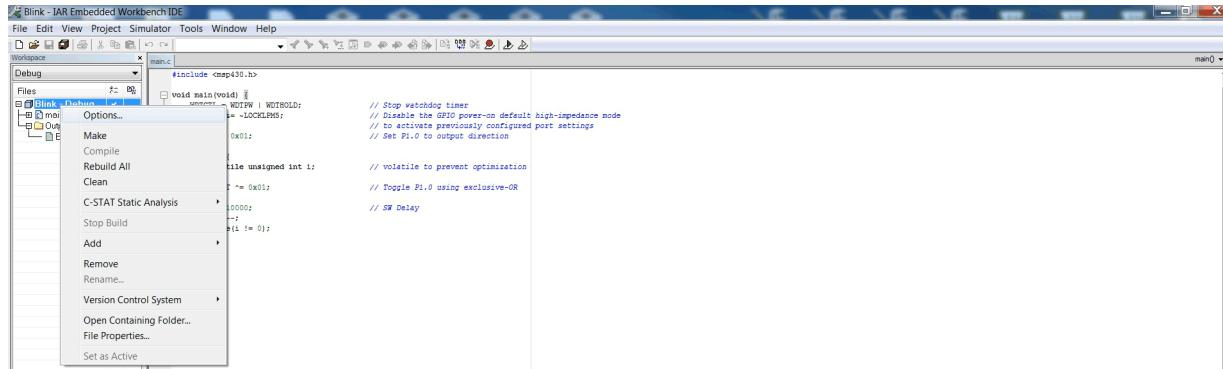

Figure 7. IAR – Project Options
1. Right click on the Project (the Blink example code is used in Figure 7), and select Options.